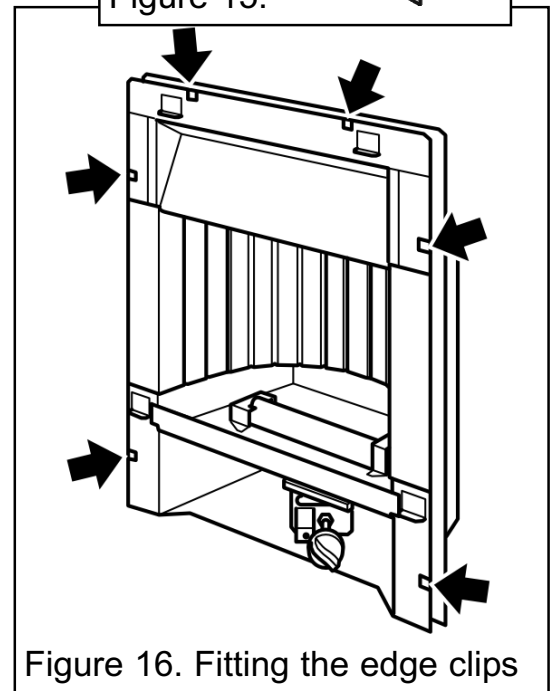

Figure 16. Fitting the edge clips
12. Locate the spacer frame to the rear of the hotbox (**The foam seal must be to the rear of the spacer frame and NOT against the flanges of the hotbox**). Secure the spacer frame to the hotbox using the six edge clips supplied. Position these as in figure 16.